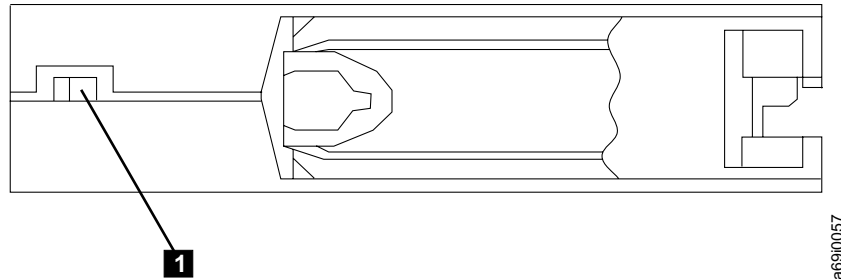

Figure 45. Checking the Cartridge's Side Reel Lock
4. Hold the cartridge so that its insertion end faces you and inspect the white plastic tab on the left (see **1** in Figure 45). The tab is one of two cartridge reel locks. If the tab is not visible, dispose of the cartridge.